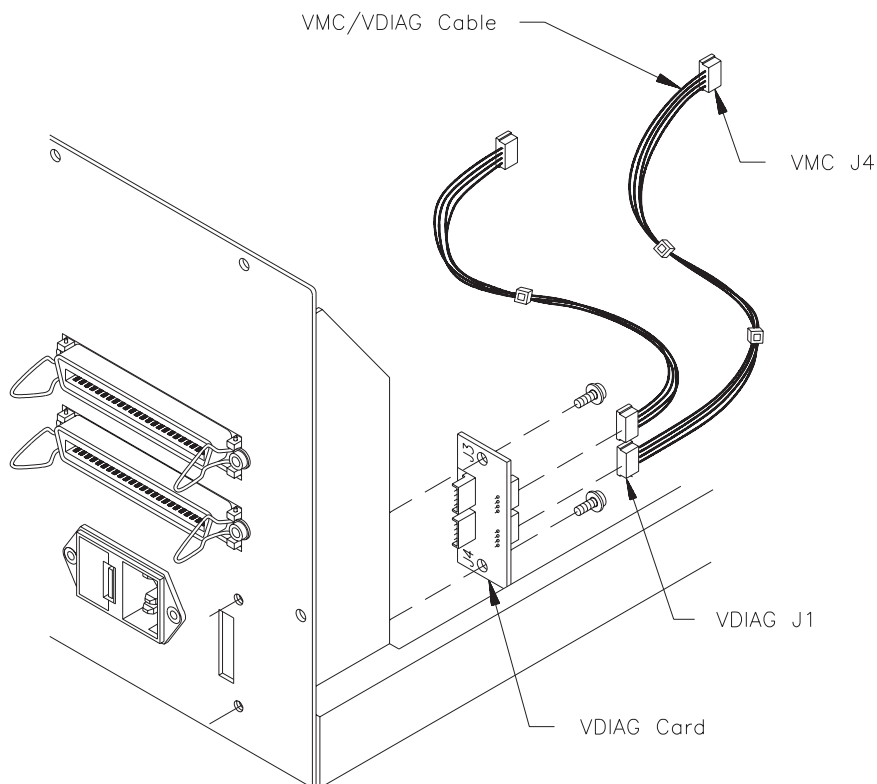

Figure 23-4 VMC/VDIAG cable (card and cable removed)
3. Locate the VMC/VDIAG cable, which is connected to the VDIAG card and the VMC card in the back of the CHS. Figure 23-4 shows the location of the VMC/VDIAG cable.